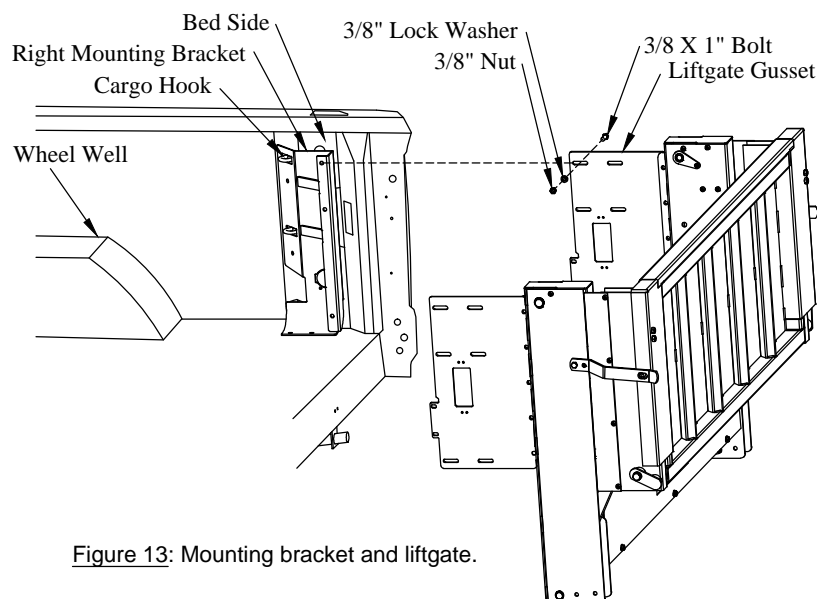

Figure 13: Mounting bracket and liftgate.
- (3) 3/8"x1" hex head bolts on the bracket-side (Figure 13).
- (3) 3/8" lock washers, and (3) 3/8" nuts on the gusset-side (Figure 13).